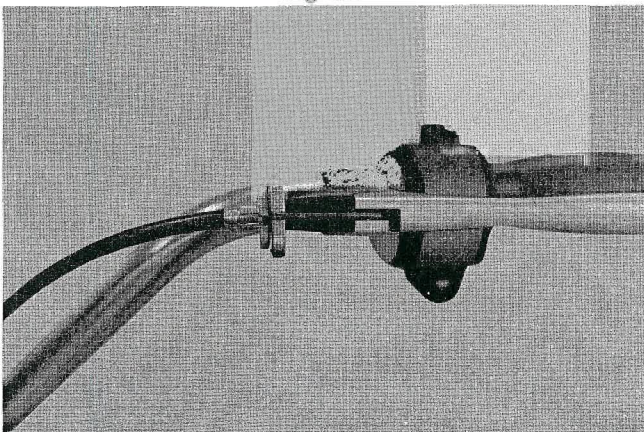

Fig. 30
- a) Fully loosen the clutch lever lock nut, and screw in the adjusting bolt until it becomes tight so that the clutch lever lock nut slot is aligned with the adjusting bolt slot. Next, connect the clutch cable end to the clutch lever, and hook up the outer clutch cable to the lock nut. Then, fully pull in the clutch lever, and release it abruptly. At the same time, pull the outer clutch cable quickly. This makes easy the connection of the outer clutch cable to the adjusting bolt. (Fig. 30)